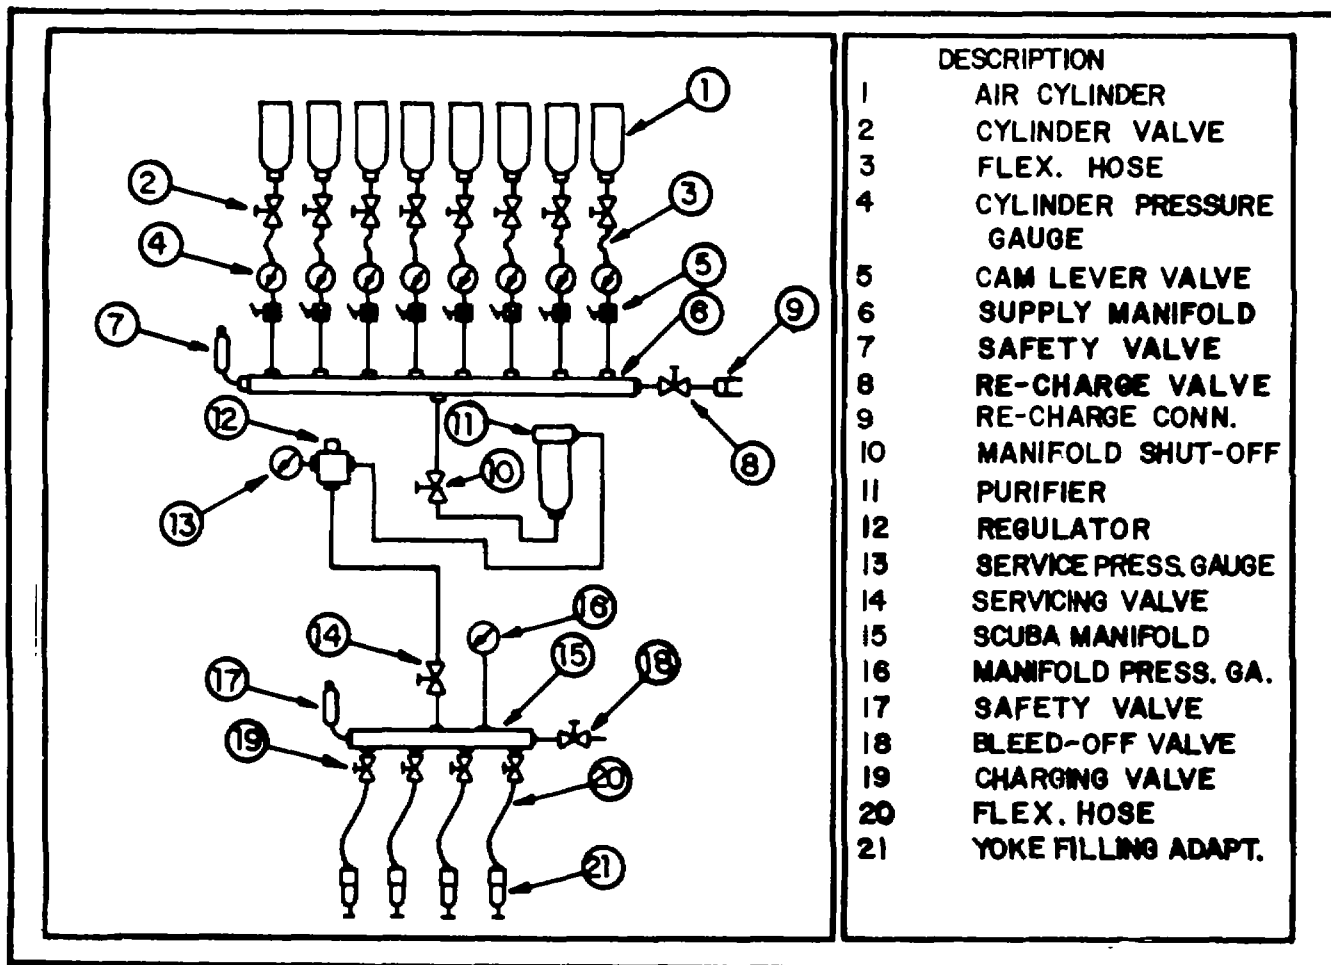

Figure 4-3. Component Layout, Type I (Air)
4-9. TYPE I (AIR) - CHARGING THE TYPE I (AIR) SERVICING UNIT (See Figure 4-3)
a. Type I Servicing Unit - to bleed the air pressure from a Type I servicing unit, proceed as follows (See Figure 4-3)
- (1) Close charging valves (19) and close air cylinder valves (2)
- (2) Place cam lever valves (5) in the up (open) position
- (3) Open manifold shut-off valve (10) and service valve (14).
- (4) Open bleed-off valve (18)